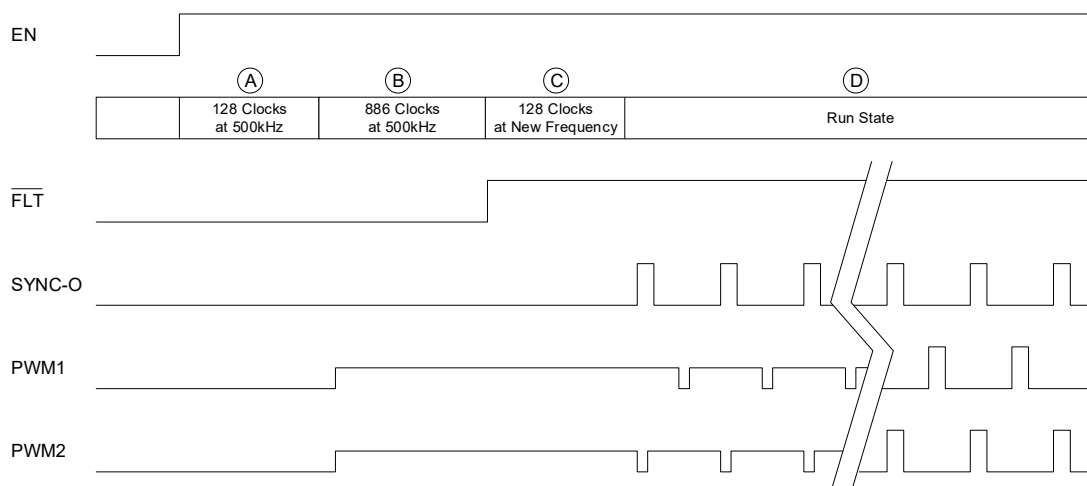
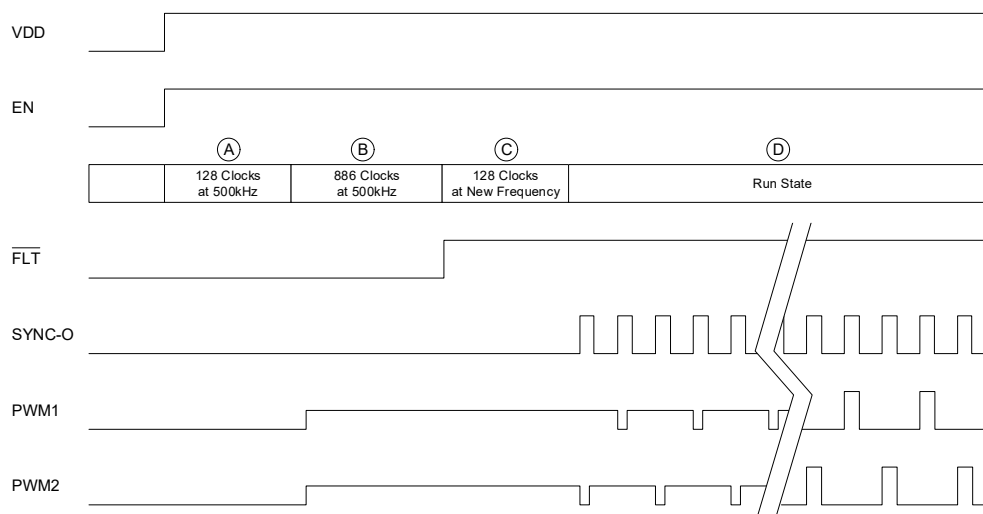

Figure 47. Start-Up Timing Diagram ($R_{\text{SYNC-O}} = \text{OPEN}$)
Figure 48. Start-Up Timing Diagram ($R_{\text{SYNC-O}} = 100\text{k}\Omega$)
When the ISL73847M first powers up, it goes through several states before boot refresh and soft-start. After VDD has crossed the rising UVLO threshold, the oscillator waits for 128 clock cycles at 500kHz before allowing the digital core to enter its configuration state. The configuration state lasts 886 clock cycles at 500 kHz. When the digital core completes its configuration, it signals the oscillator to switch to the frequency set by the FS pin or SYNC-I. After an additional 128 clock cycles at the new frequency, boot refresh pulses commence, followed by soft-start. Figure 47 and Figure 48 illustrate the start-up sequence.
During states A and C in Figure 47 and Figure 48, the oscillator blanks the clock signal to the digital core. Therefore, the oscillator has time to stabilize its frequency before entering the configuration state (B) or run state (D).